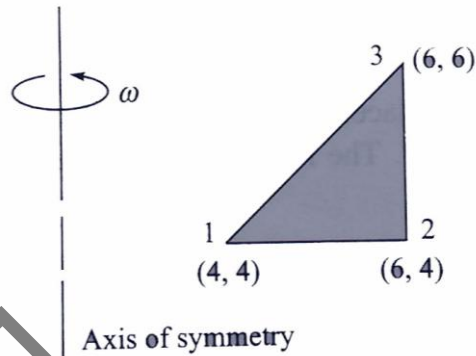

Figure 3
6. Derive the jacobian matrix of two dimensional four noded isoparametric element (figure 3). [15]